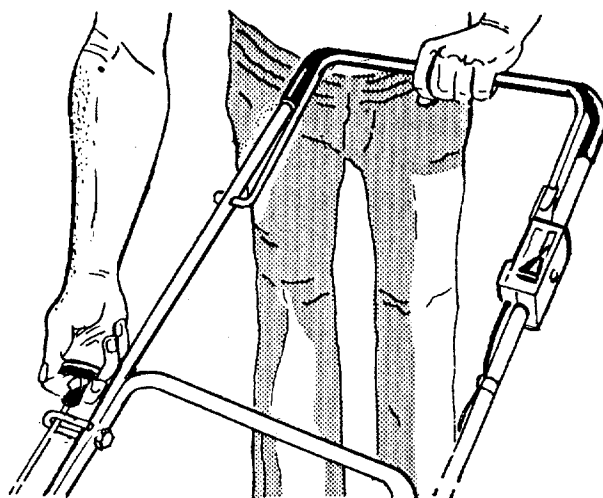

FIGURE 28.
2. Standing behind the unit, depress the blade control handle and hold it against the upper handle as shown in figure 28.